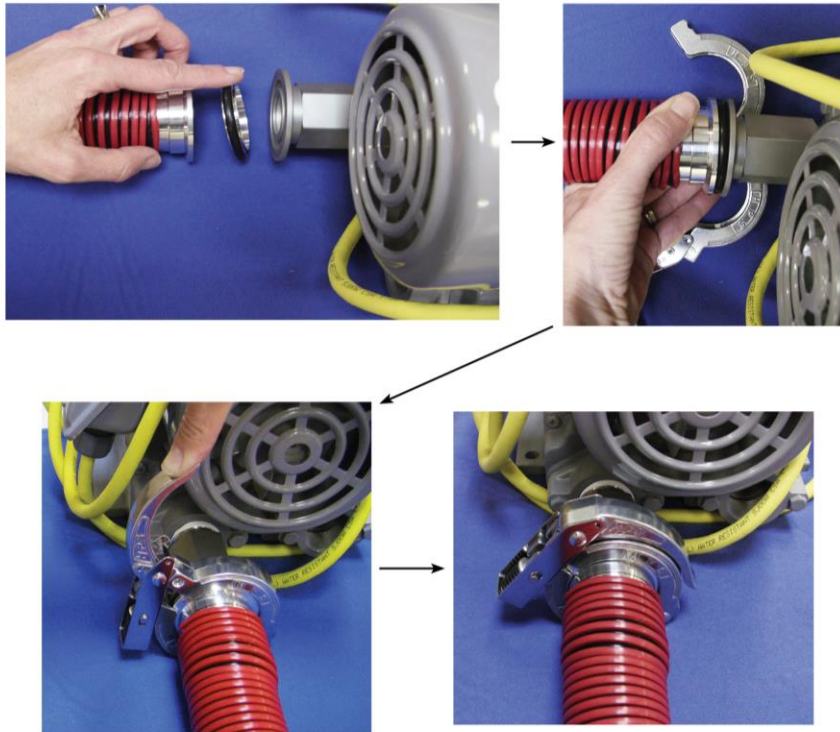

Figure 9: Attaching the Pump to the Pump Hose
2. Connect the pump hose to the pump (Figure 9).